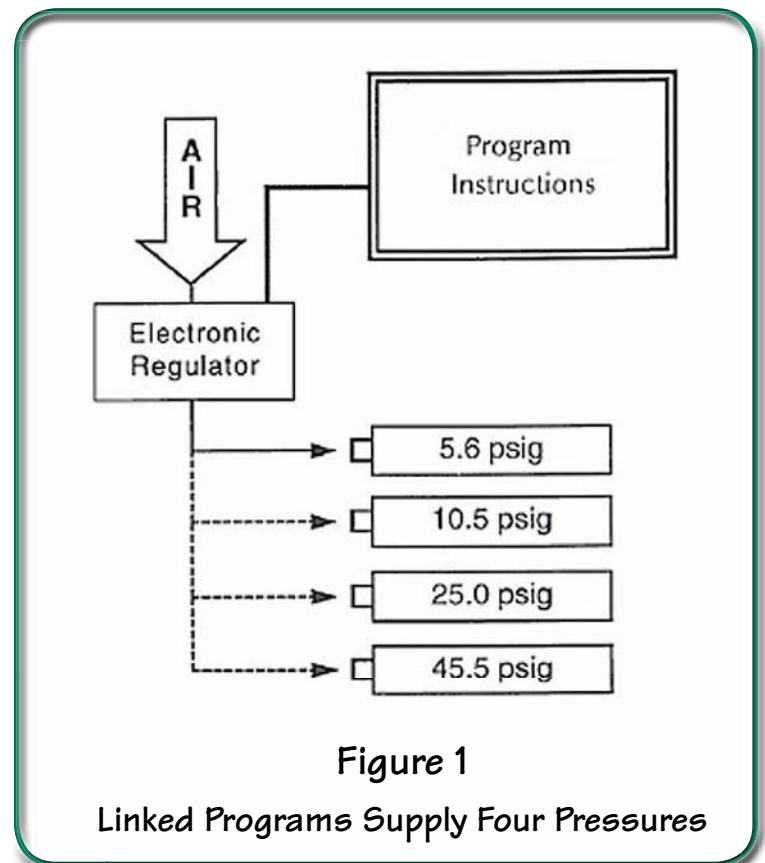

Figure 1
- When in Run Mode, the electronic regulator automatically goes to the set test pressure to provide the desired pressure or ramp rate for one or multiple products. (Figure 1)